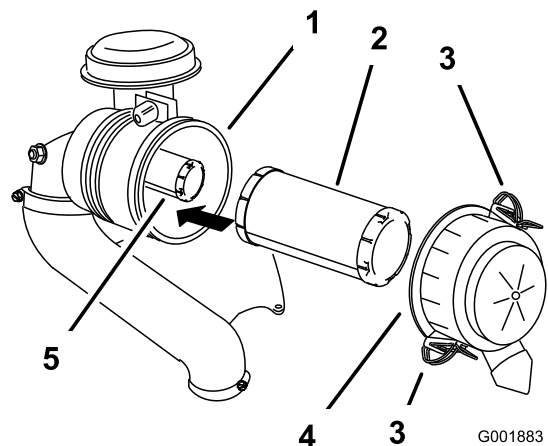

Figure 44
3. Release the latches on the air cleaner and pull the air-cleaner cover off the air-cleaner body (Figure 44).
- Gently slide the primary filter out of the air-cleaner body (Figure 44).
- If you are replacing the inner filter, carefully slide it into the filter body (Figure 44).
- Carefully slide the primary filter over the safety filter (Figure 44).
- Install the air-cleaner cover and secure the latches (Figure 44).